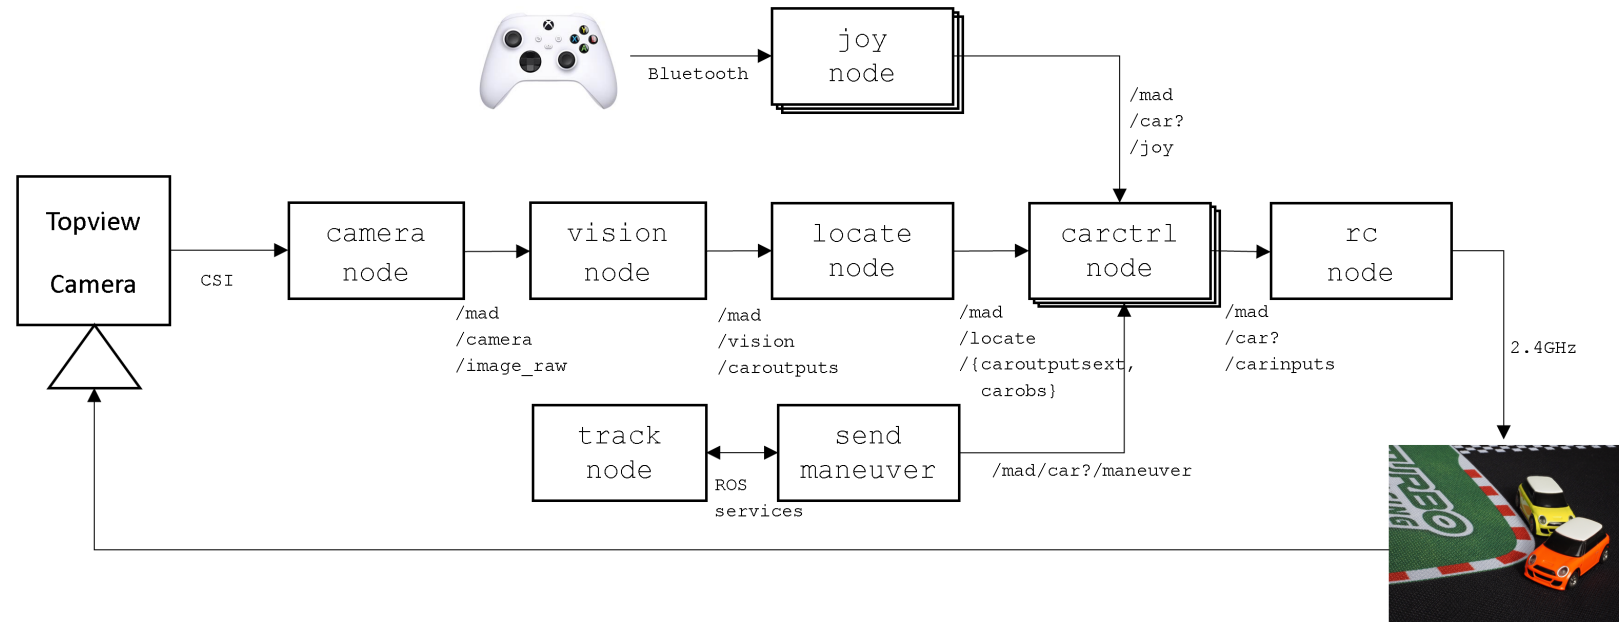

Figure 1: ROS2 nodes of MAD76 Driving Stack
- It contains the subsystems modeling and simulation the ROS2 nodes of MAD76 in Figure 1 plus the vehicle dynamics:
- ROS2 messages in Figure 1 are modeled as Simulink bus signals in `s06_sig_template.slx`
- All ROS2 nodes in Figure 1 run on the Raspberry Pi except for `carctrlnode`